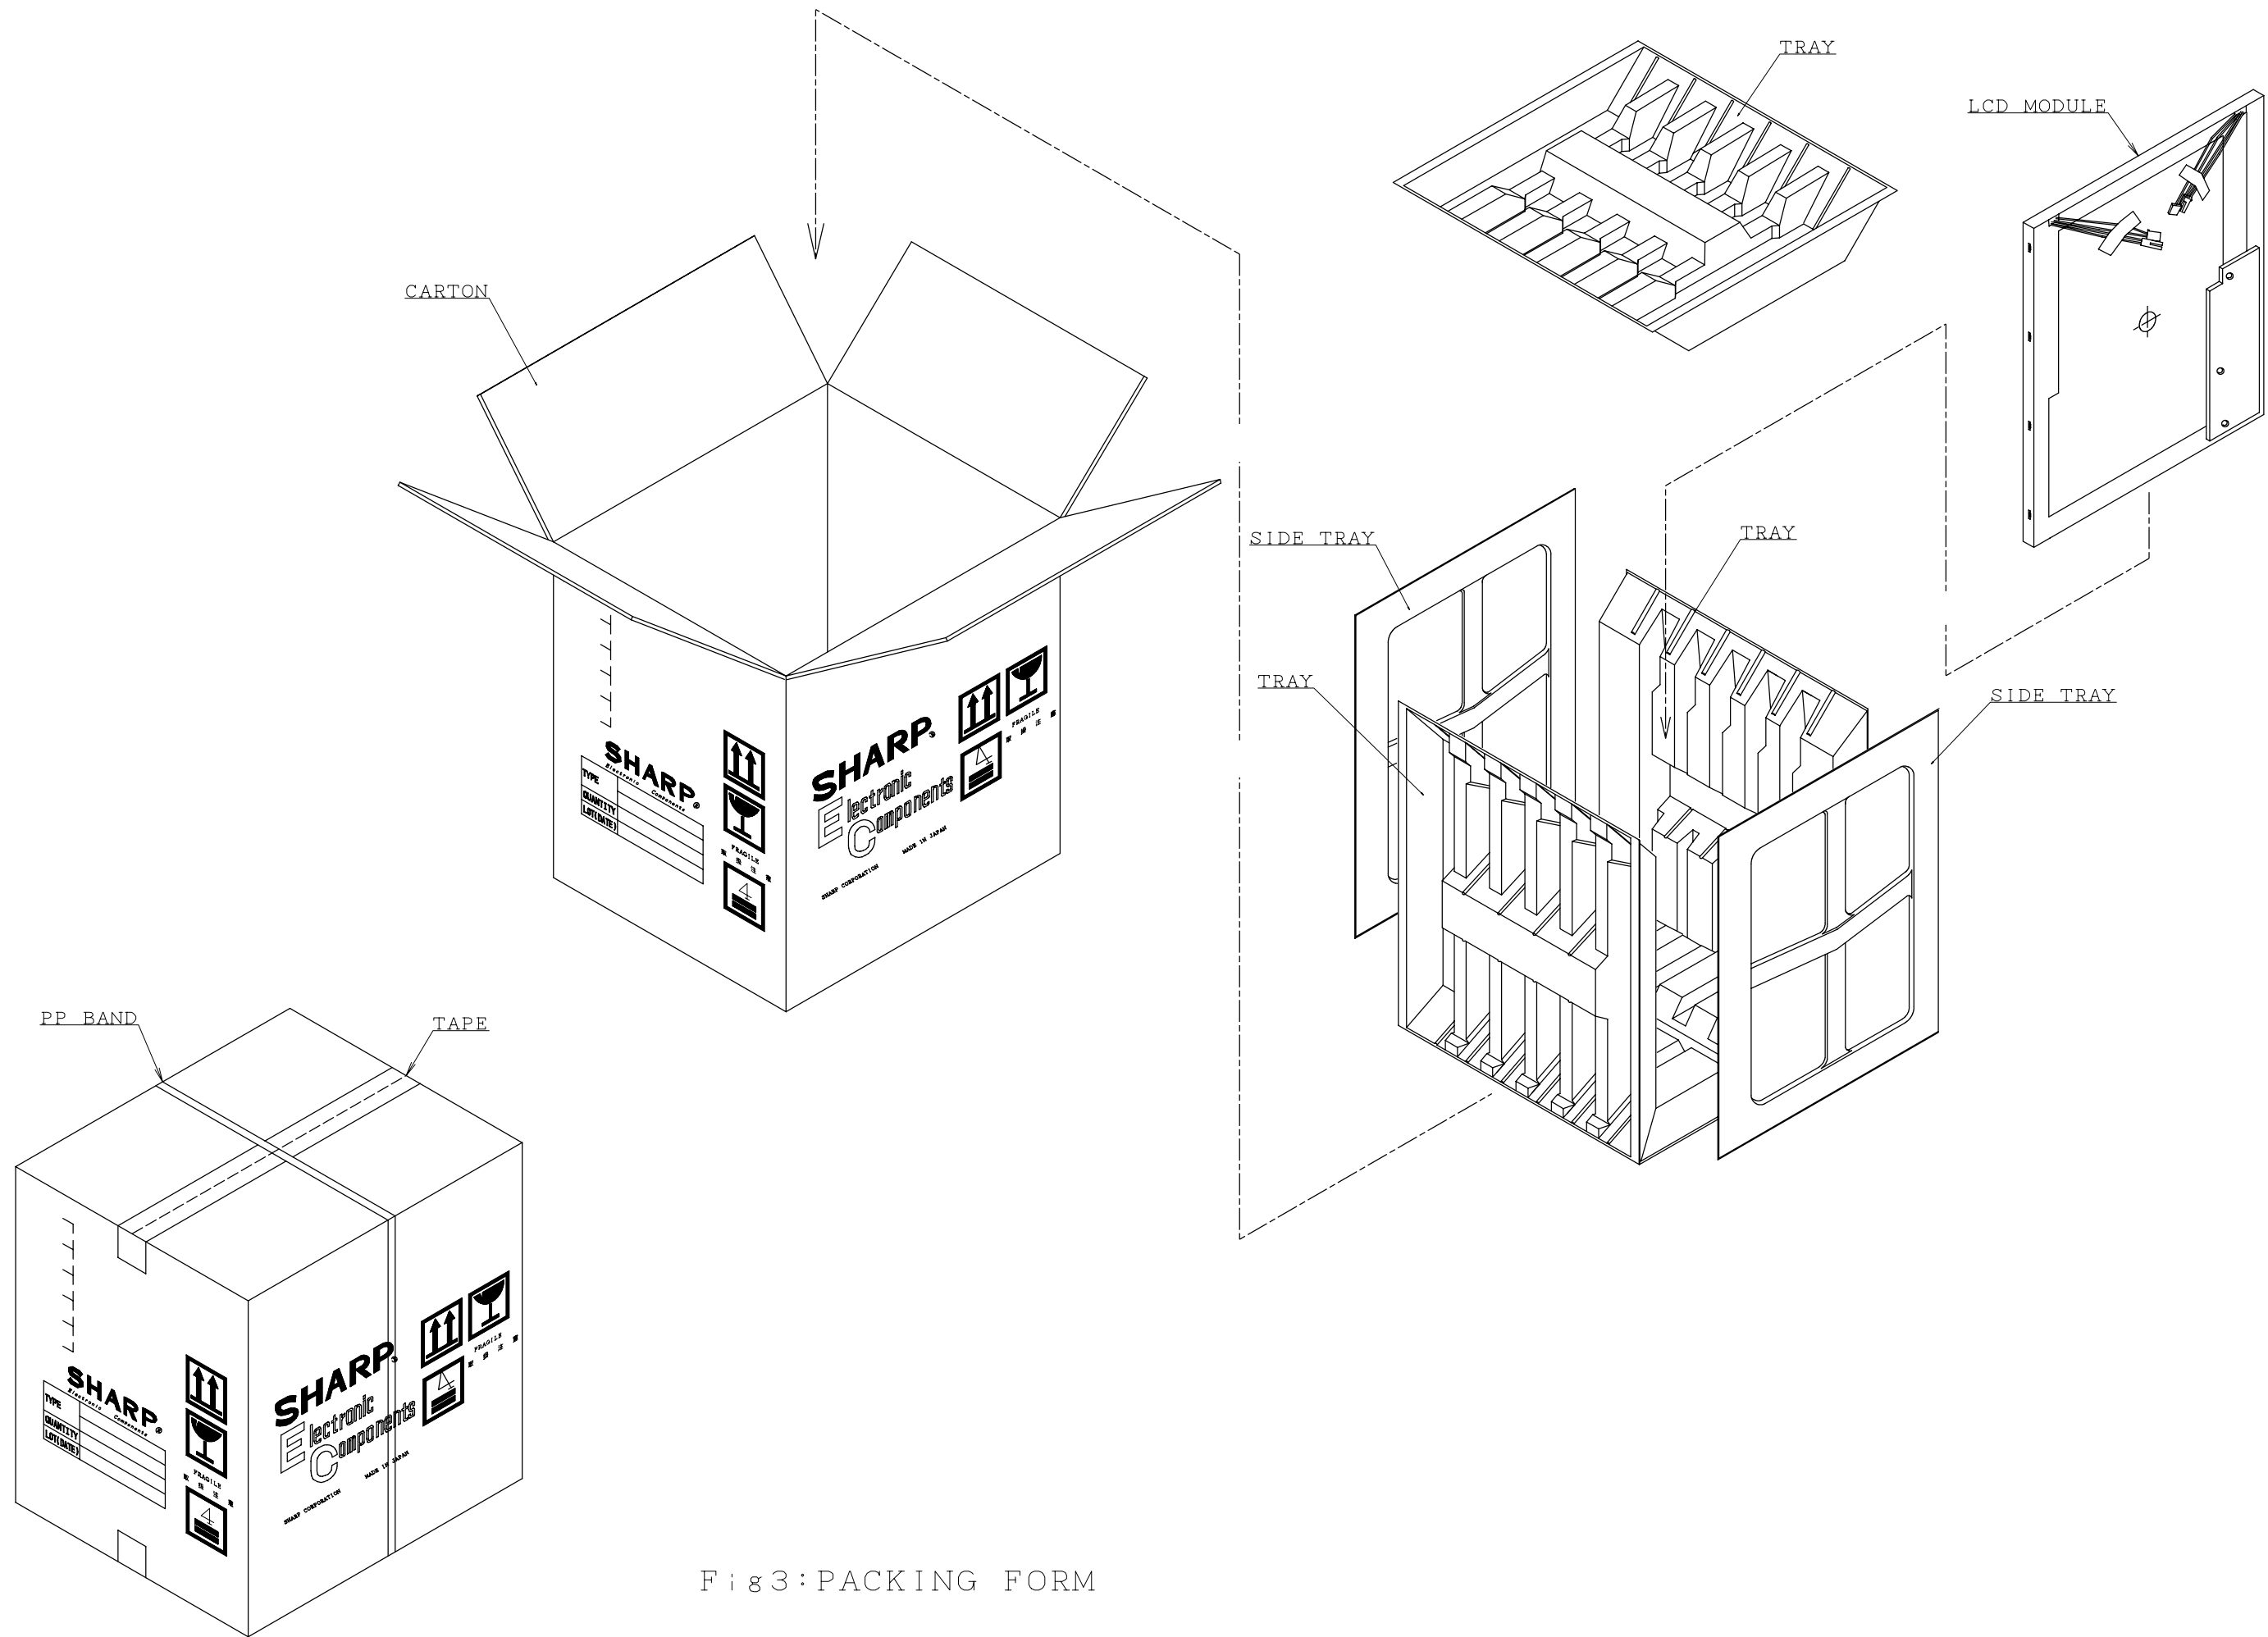

Fig 3: PACKING FORM
- c) Carton size : 363(W) × 277(D) × 440 (H) mm
- e) Packing form : Fig.3